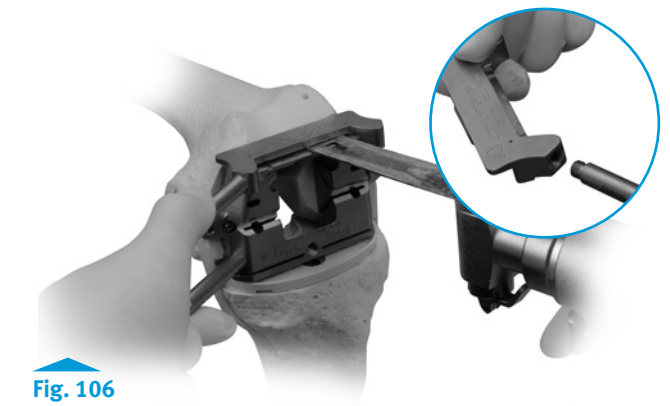

Fig. 106
- Attach the Mini Handles to the LCCK Anterior Cutting Guide (Fig. 106).
- Slide the LCCK Anterior Cutting Guide into the keyed slots in the 4-in-1 Femoral Cutting Block (Fig. 106).
- Use a 0.050 in. (1.27mm) oscillating saw blade to make the anterior bone cut (Fig. 106).